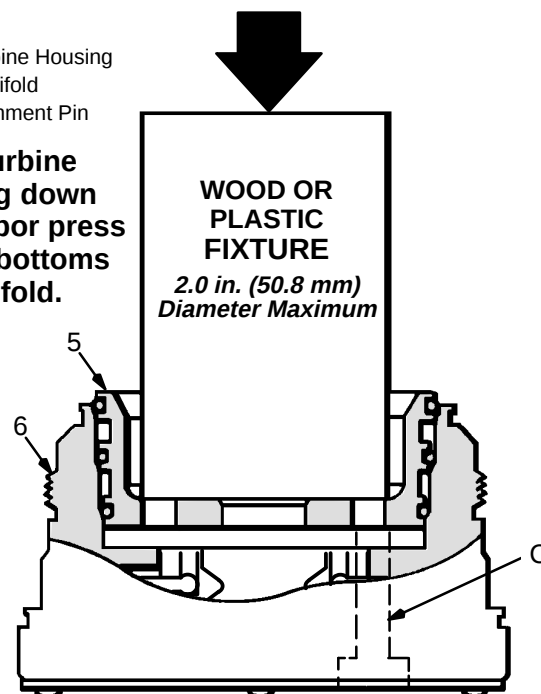

Fig 16
4. Align the turbine housing (5) and the manifold (5) fiber optic port, using an alignment pin (C). Then press the turbine housing into the manifold (6) as shown in Fig 16, using an arbor press.